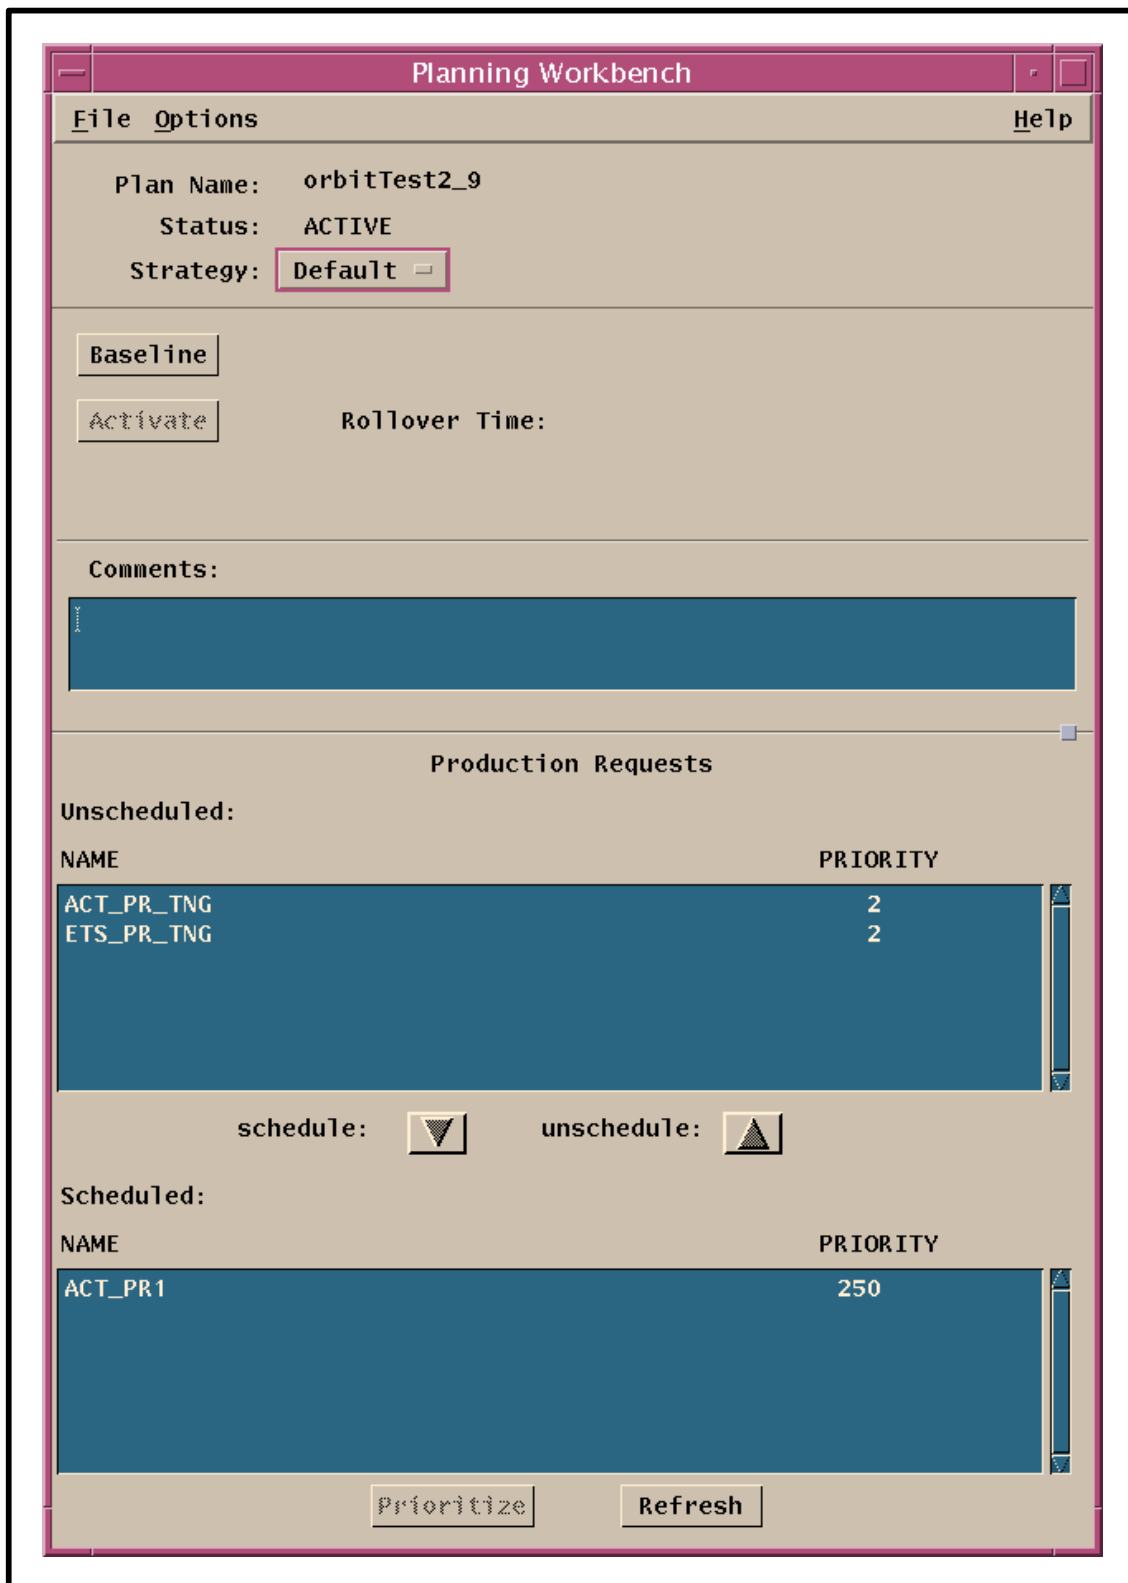
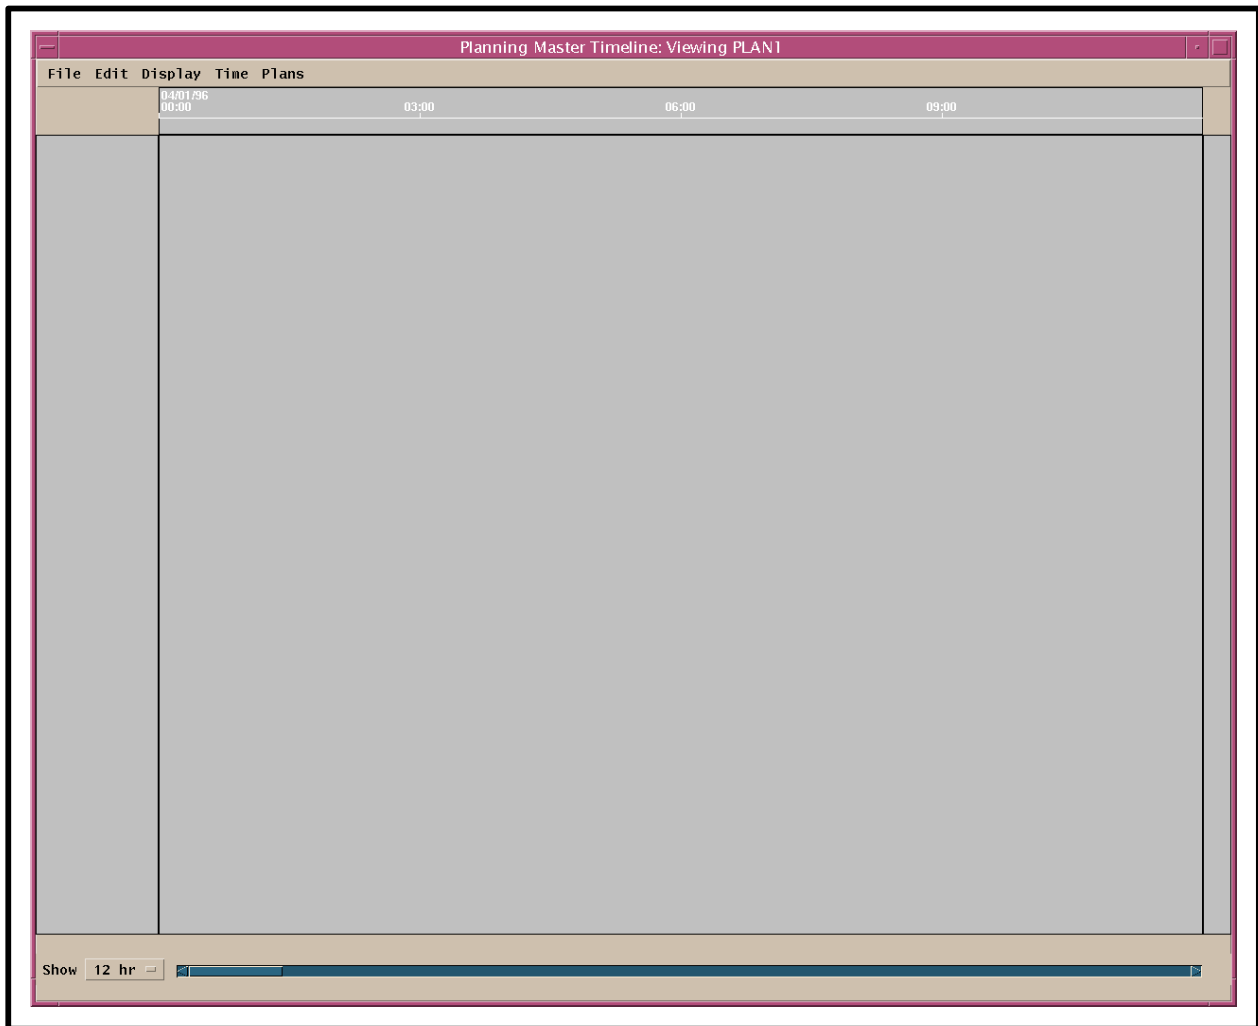

Figure 36. Planning Workbench GUI
Figure 37. Production Planning Master Timeline GUI
- Eventually, the **Planning Workbench** GUI (Figure 36) is displayed. Then the **Production Planning Master Timeline** GUI (Figure 37) is displayed.
- The **Planning Workbench** GUI (Figure 36) is displayed.
- The **Production Planning Master Timeline** GUI (Figure 37) is displayed.